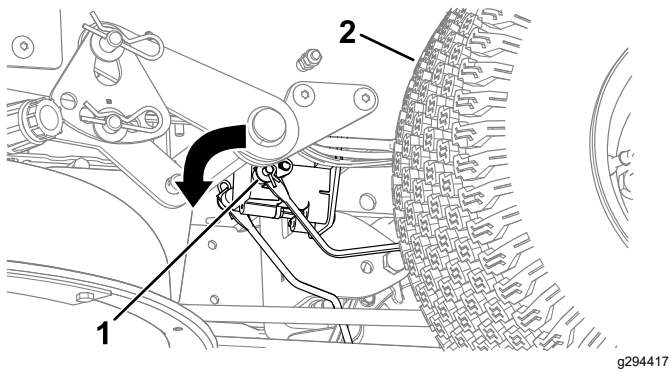

Figure 51
3. Locate the shaft on the electric brake where the brake link arms are connected (Figure 51).
4. Rotate the shaft to release the brake (Figure 51).